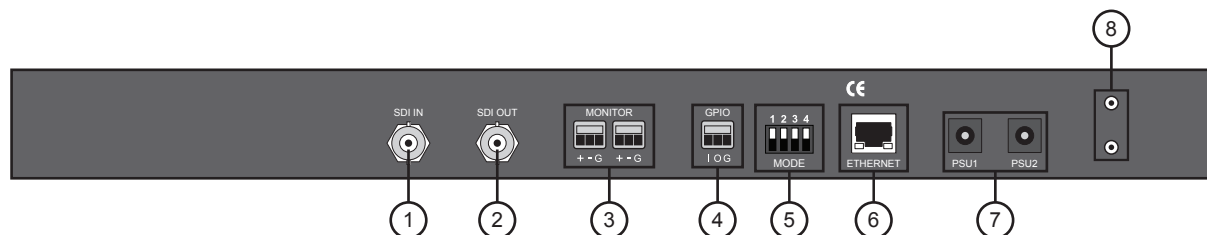

Figure 2.2 MB-651 — Rear Panel
2. Connect the DC plug to the power jack located on the rear panel of the MB-651. Refer to **Figure 2.2** for power connection location.